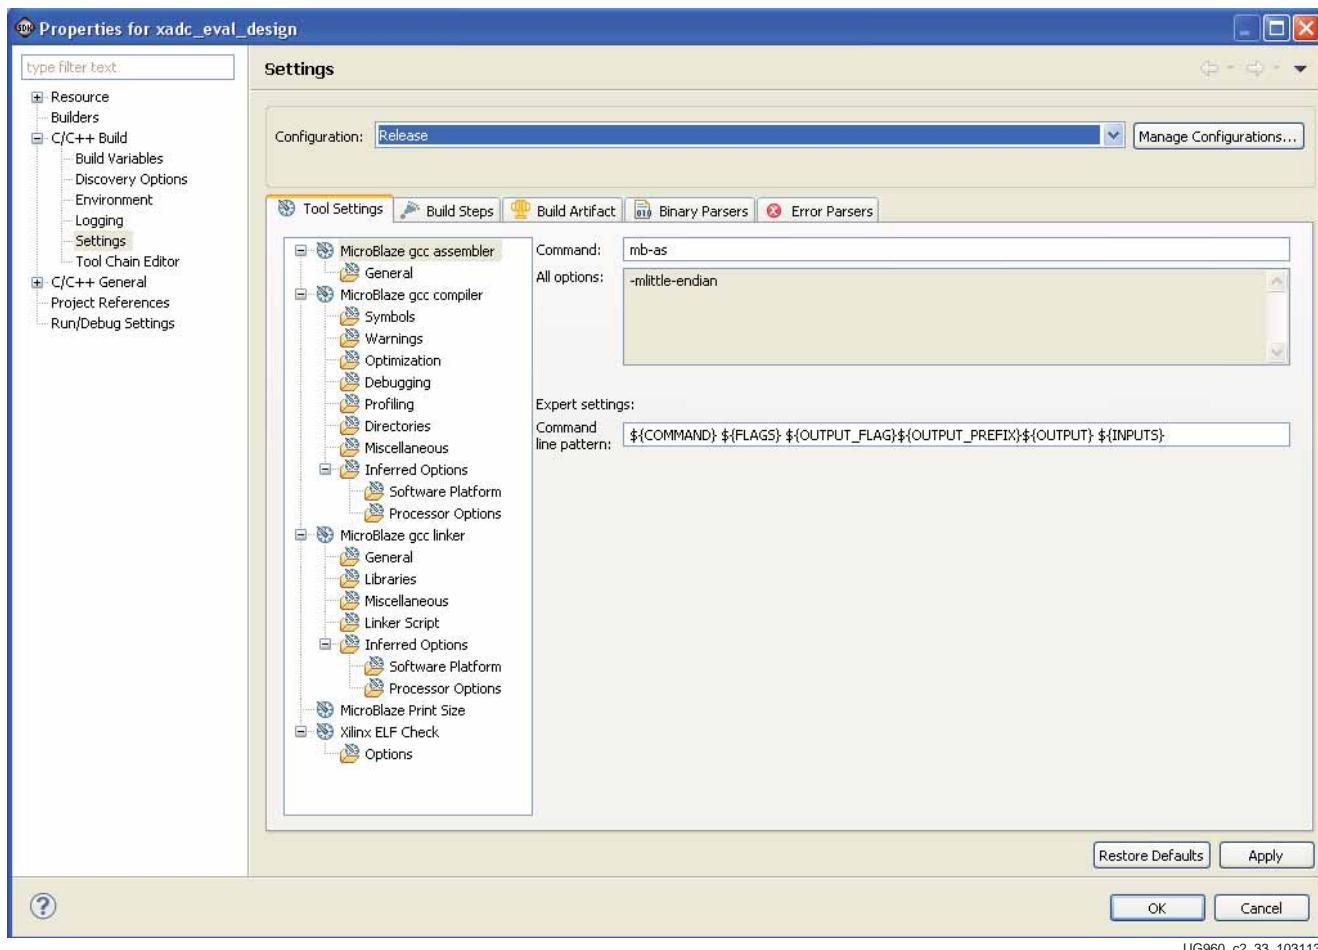

Figure 2-33: Selecting Release as Configuration
14. Select **Release as Configuration** as shown in Figure 2-33.